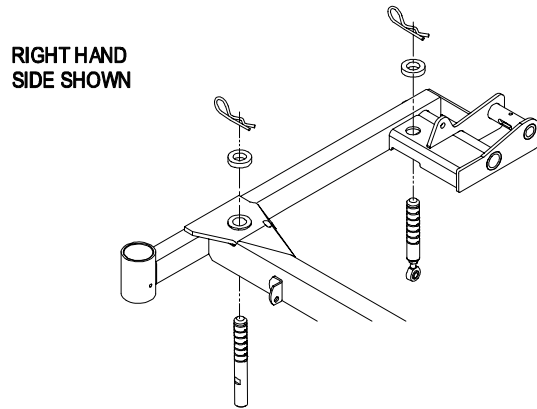

FIGURE 8
- Verify all hairpins are in the 3" deck height holes with the spacers under the hair pins. See Figure 8.